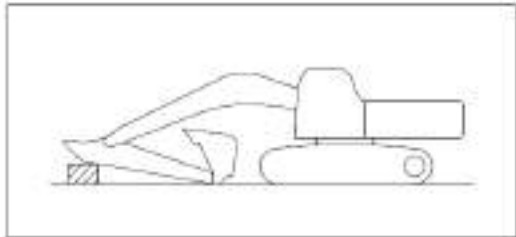

Figure 6-5 Precautions for fixing the machine (I)
2. In order to prevent the bucket cylinder from being damaged during transport, wooden pad should be placed at one end of the bucket cylinder to prevent it from touching the floor (Figure 6-5).